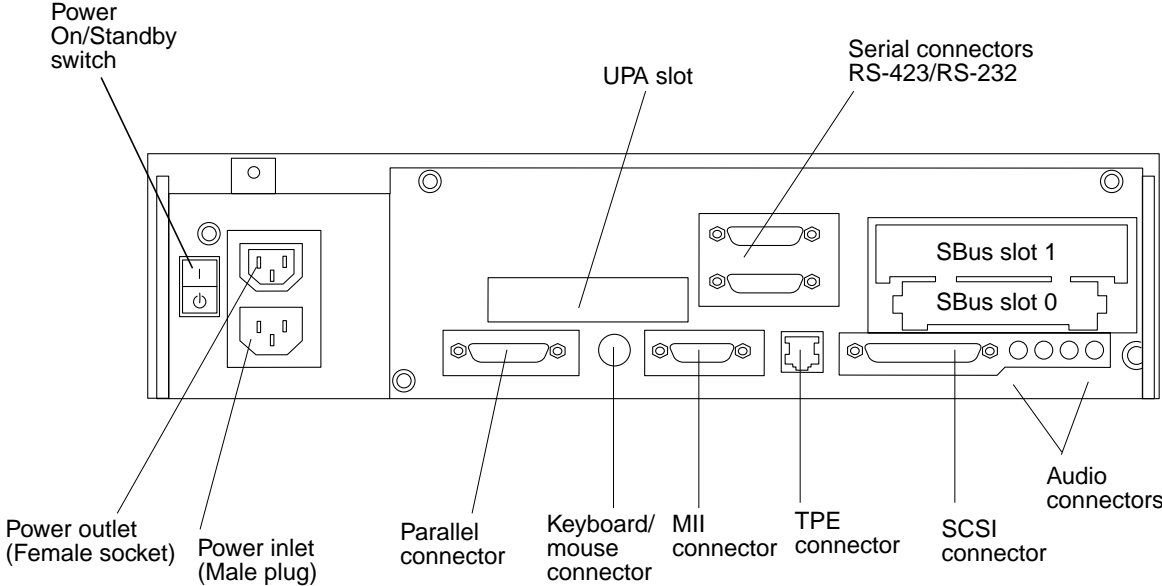

FIGURE 1-1 Back Panel Switches and Connectors
- FIGURE 1-1 Back Panel Switches and Connectors 1-1